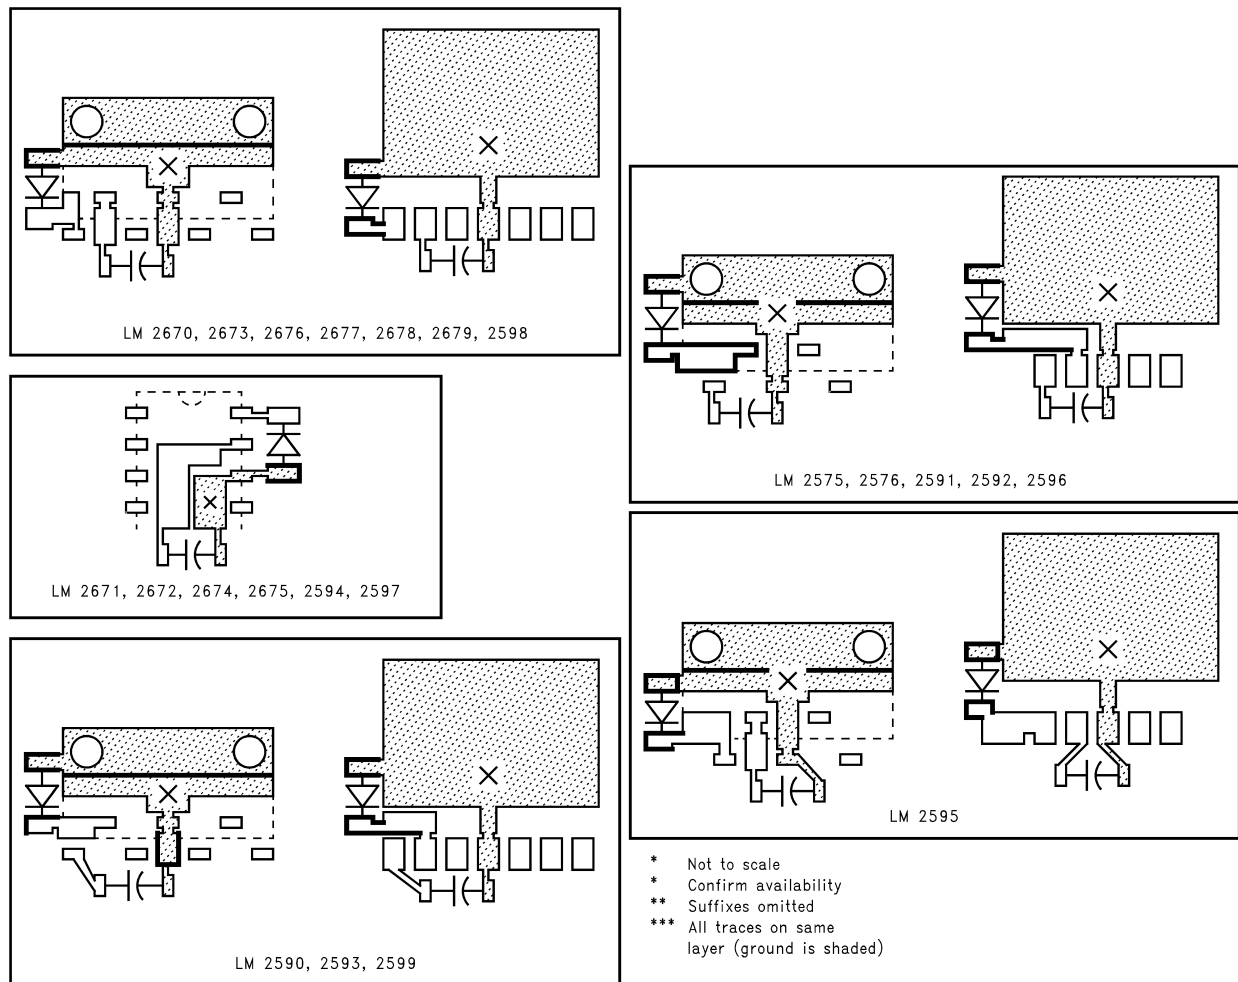

Figure 1. Recommended Layout Starting Points
The overall subject of PCB design is an extremely wide one, embracing several test/mechanical/production issues and also in some cases compliance/regulatory issues. There is also a certain amount of physics/electromagnetics involved, if a clearer understanding is sought. But the purpose of this application report is to reach the audience most likely to use it. Though there is enough design information for the more experienced designer/CAD person, the application report includes a quick-set of clear and concise basic rules that should be scrupulously followed to avoid a majority of problems. In particular, we have provided recommended starting points for layout when using the popular LM267x, LM259x and LM257x families (Figure 1) The focus is on the step-down (Buck) Simple Switcher ICs from Texas Instruments, but the same principles hold for any topology and switching power application.
1. Place the catch diode and input capacitor as shown in Figure 1.
2. For high-speed devices (for example, LM267x) do not omit placing input decoupling/bypass ceramic capacitor (0.1  $\mu\text{F}$ –0.47  $\mu\text{F}$ ) as in Figure 1.
3. Connect vias to a Ground plane if available (optional, marked 'X' in Figure 1).
Remaining component placements can be taken up only after the input bypass capacitor and the catch diode are firmly in place and are both acap. The traces to either of these two components should be short, fairly wide, and should not go pass through any vias on the way to the IC. For SMT boards this implies that the input capacitor and catch diode are on the same layer as the IC. **In Figure 1 suggested PCB starting points are provided for several switchers.** All of them focus on placing these two critical components correctly. These layouts are strongly recommended for most applications. **The 'X' marks suggest the recommended location where vias can be used to connect to a Ground Plane (if present).** The remaining components can be placed relatively carelessly (though in doing so, there may be slight impact, for example on the accuracy of the output voltage rail and its ripple, but nothing compared to what can happen if the input decoupling cap and catch diode are incorrectly placed). Trace routing is now discussed in more detail.
The tab of the power packages of the Simple Switcher devices is fortunately at Ground potential, so having large copper planes around the tab will not produce EMI. The tab can be left floating, but if it is used, it must be physically connected directly to the GND pin of the IC as indicated in Figure 1. If a double-sided board is used, several small vias can be sunk right next to the IC Ground in positions marked 'X' on to a 'Ground plane' on the other side of the PCB. These vias therefore not only help in the correct electrical implementation of grounding, but also can serve as thermal shunts. They are therefore
With double-sided boards, it is a common practice to almost completely fill one side with ground. There are people who usually rightly so consider this a panacea or ‘silver bullet’ for most problems. As we have seen, every signal has a return, and as its harmonics get higher, the return ‘wants’ to be directly under the signal path, thus leading to field cancellation, and reduction of inductance. It also helps thermal management as it couples some of the heat produced by power devices on one side of the board to the other side. The Ground plane also capacitively links to noisy traces above it, causing some ‘softening’ of transients and thereby some reduction in noise/EMI ---**unless the cross-coupling is so severe as to start causing the Ground plane itself to radiate.** Vias can be sunk under the ground terminal of all power components in to the Ground plane, and this reduces DC resistance offset errors on the output voltage too for example. As mentioned, in Figure 1, ‘X’ marks have been placed to indicate that if there is a double sided board in use, and a Ground plane is present, then vias can be added at these points. They are optional, and so if a low cost single-sided board is preferred, they can be omitted. But if these vias are also doubling over as ‘thermal vias’ for the switcher IC, as when they are under the tab of an SMT power device, they should be sized appropriately as previously discussed.
However, a Ground plane should be an ‘add-on’ to the recommendations in Figure 1. It does not substitute the correct placement of the two critical components. Much effort should go into not breaking or partitioning this plane. Further, in general, if too much switching power flow occurs through such a plane, it can create 'ground bounce' and cause controller upsets. Therefore in higher power applications, with the added luxury of multi-layer PCBs, separate signal and power ground planes are used. But for the lower power SIMPLE SWITCHER family, a single Ground plane is all that may be required. And if the layout is carried out conscientiously, keeping all the recommendations in mind, even a single-sided board should suffice.